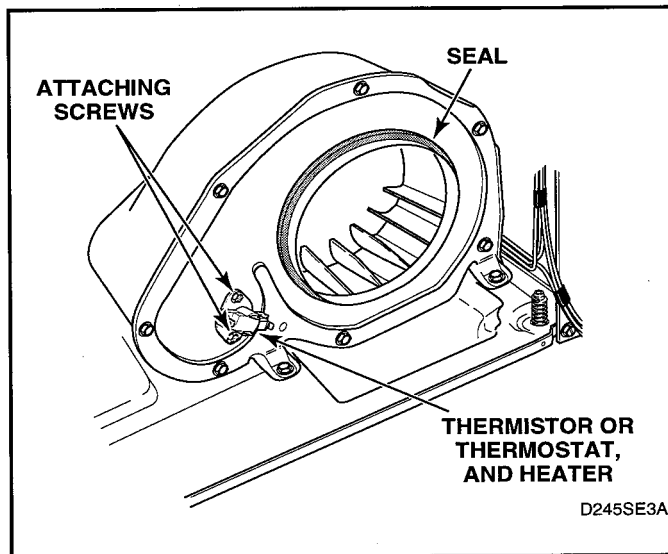

Figure 5-12
- Disconnect wires and remove thermostat attaching screws, thermostat and heater. See figure 5-12.
**IMPORTANT:** When reassembling, be sure felt seal on exhaust fan cover makes airtight seal on flange of duct. See figure 5-12. If the seal is installed improperly, the airflow through the exhaust system will be restricted which can adversely affect dryer performance.
**IMPORTANT:** When reassembling, be sure seal on exhaust fan cover makes airtight seal on flange of duct. See figure 5-12. If the seal is installed improperly, the airflow through the exhaust system will be restricted which can adversely affect dryer performance.